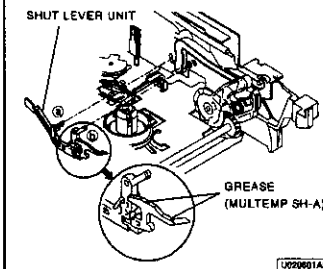

Fig. 2-6-1
1. Unfasten the two catches ((a) and (b)) of the SHUT LEVER UNIT shown in Fig. 2-6-1 to remove the SHUT LEVER UNIT.
1. Apply GREASE (MULTEMP SH-A) [859D055080] to the area specified in Fig. 2-6-1 on the new SHUT LEVER UNIT.
2. Install the SHUT LEVER UNIT shown in Fig. 2-6-1.